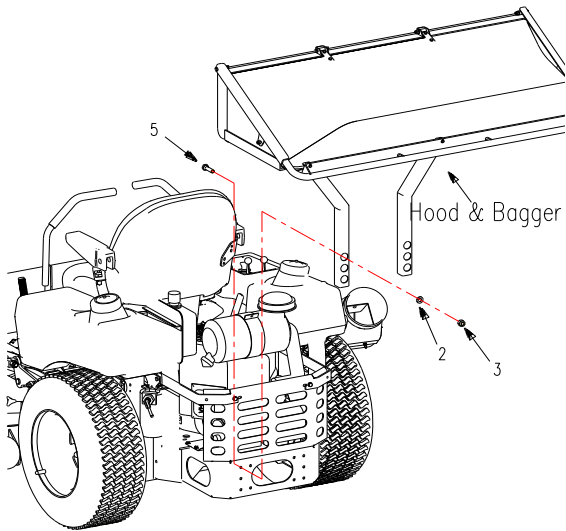

FIG 9
b) Attach hood frame assembly to mower rear main frame as shown. (FIG 9)